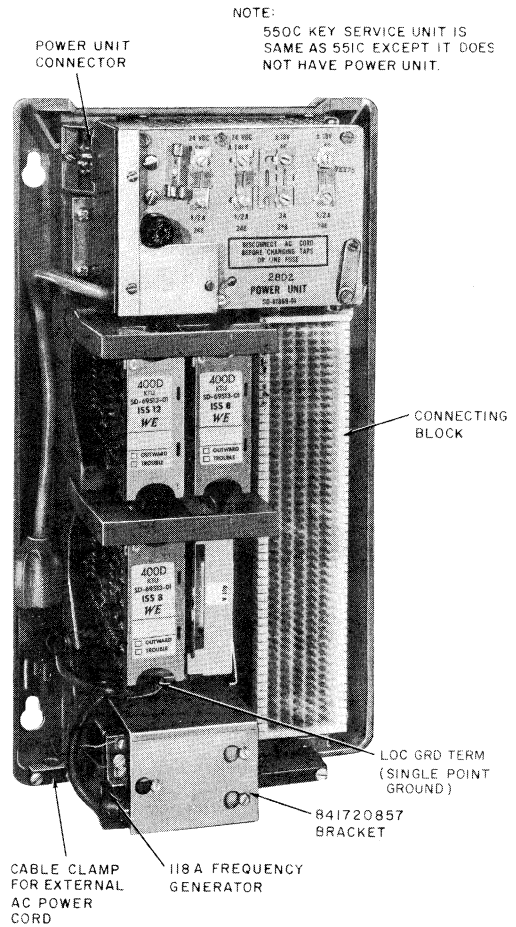

Fig. 1 — 551C KСУ With Frequency Generator
(a) **Basic Units (Fig. 1):**
- (c) **551A KСУ (MD):** Connect the external power cord to the power unit cord through the cutout in the bottom of the KСУ case.
- (a) Attach the generator to the mounting bracket (841720857) with the three screws supplied (Fig. 1). Snap the pins of the bracket arms into the holes in the backboard flanges of the KСУ. Let the generator rest against the front of the interrupter with its power cord to the left. Connect the feed-through type plug to the external ac power cord and, if the KСУ is a 551C, to the power unit cord.